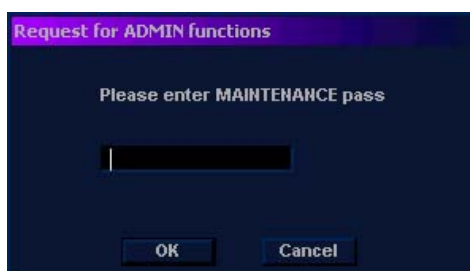

Figure 3-39 Password Request Dialog Box
- 4) Trackball to the **SERVICE** button at the bottom of the **Views** tab, and press **Select**. The password request dialog box (shown in Figure 3-39 on page 3-57) is displayed.